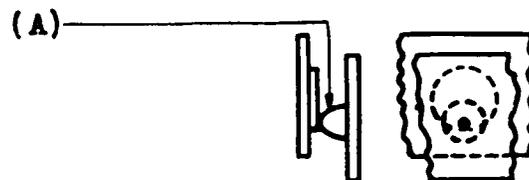

Fig. 1
2.02 **Contact Alignment:** Fig. 1(A)—Contacts shall line up so that the point of contact falls wholly within the boundary of the opposing contact.